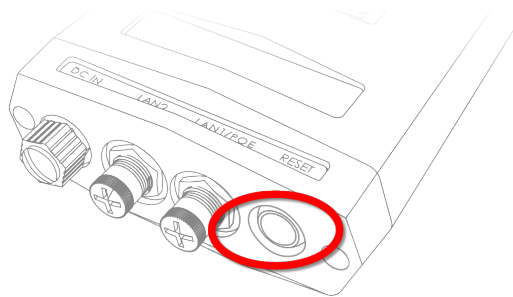

Figure 7. Cisco FM4500 Mobi (Hardware RESET button)
- Press the **RESET** button on the bottom cover of the unit (Figure 7 \(page 30\)) for one second, then release the button immediately.